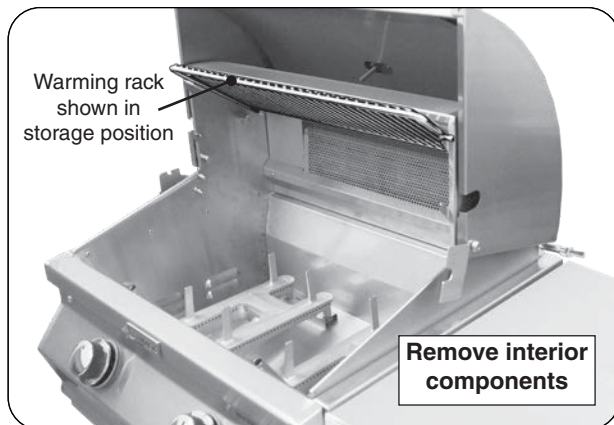

Fig. 30-1 Prepare grill for rotissing
1. On the gas side of the grill, set the warming rack to storage position, remove the backburner cover and cooking grids (see Fig. 30-1).